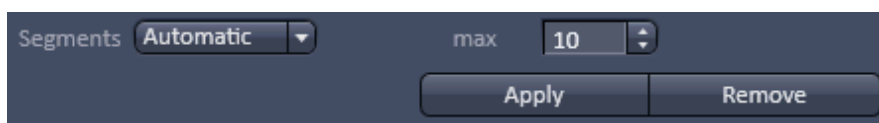

Fig. 625 Segment drop down menu with Automatic selected
- **Automatic** (Fig. 625): The algorithm determines the optimal number of segments, but will not exceed the maximum (**max**) number as set in the **max** input box. Up to 50 segments can be selected.